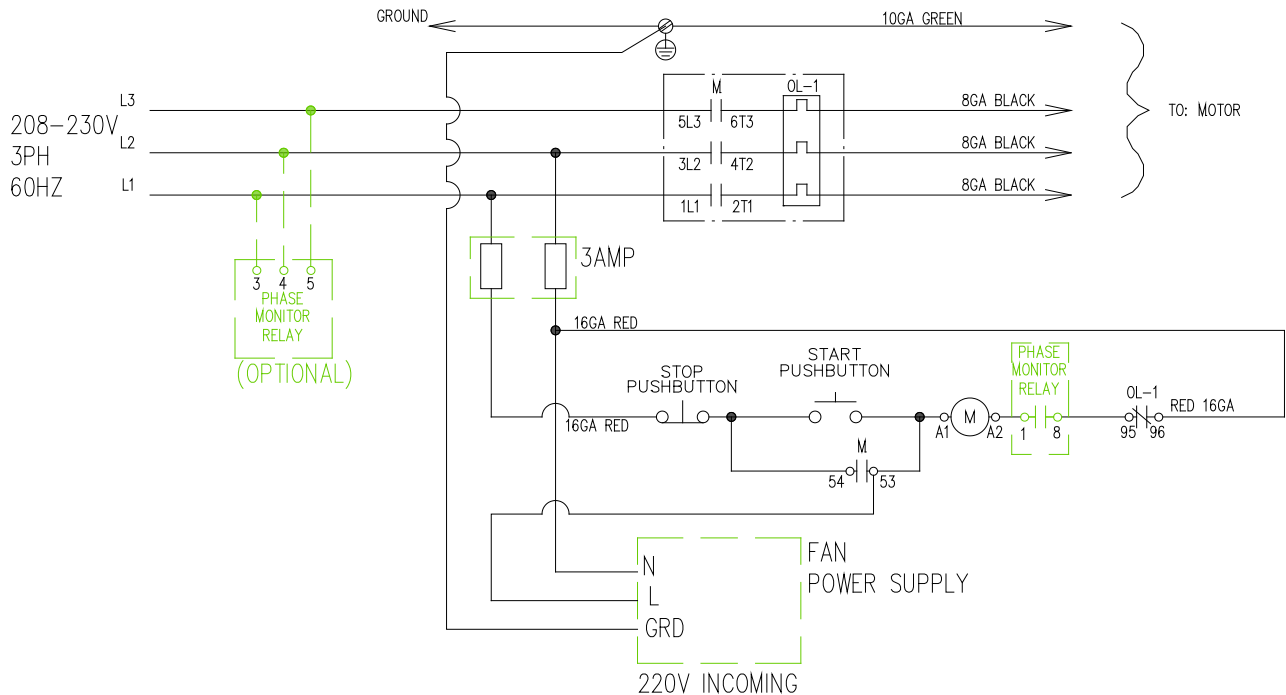

Figure 3-1.
2. The supplied motor starter is wired as shown in Figure 3-1. An electrical plug end must be installed on the cord by a qualified electrician. Insure the power supply is compatible with the motor nameplate ratings.